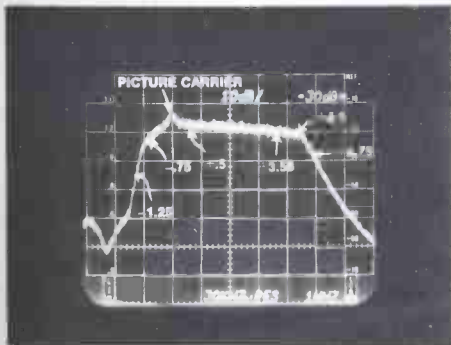

Fig. 4 Sideband response using noise.
3. Using the 300 Hz filter, tune in the visual and aural carriers of the transmitter. The results will look similar to Figs. 4 and 5.
4. Care should be taken to use the internal attenuator on the 7L12, so that the analyzer is not in an overload condition. Generally, a display similar to Figs. 4 or 5 is correct, whereas a raised baseline 10 MHz or more away
6. Critical points on the filter curve of -1.25 MHz, -0.75 MHz, +0.5 MHz, +3.58 MHz, +4.1 MHz and +4.75 MHz can be easily identified and measured in the 1 MHz/div, 10 dB/div mode on the spectrum analyzer as indicated in Fig. 4.